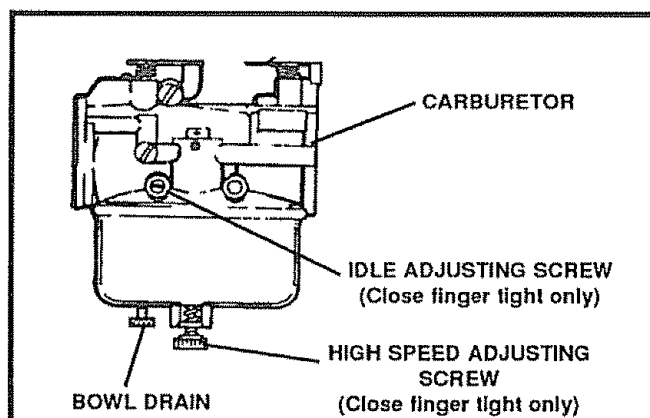
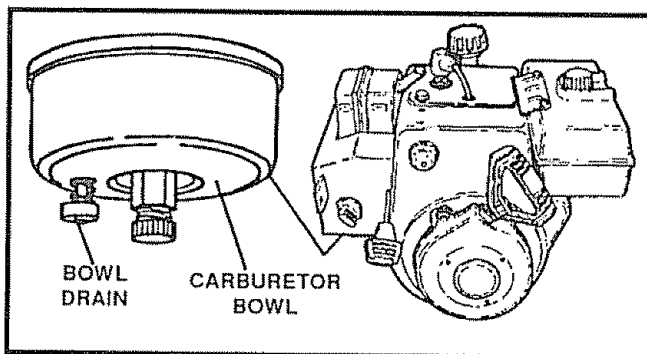

FIG. 34
FIG. 36
The carburetor (See Fig. 34 and Fig. 36, Page 24) has been pre-set at the factory and readjustment should not be necessary. However, if the carburetor does need to be adjusted, proceed as follows:
- To remove gasoline, run the engine until the tank is empty and the engine stops. Then drain remaining gasoline from carburetor by pressing upward on bowl drain located on the bottom of carburetor (See Fig 36).